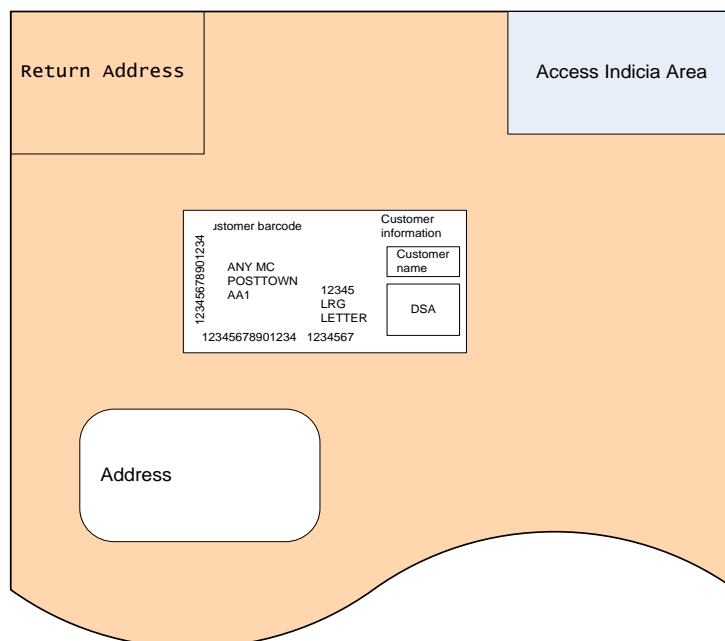

Figure 15: Return address positioning
- The label must be positioned above and to the left of the Delivery Address block. Where the return address is on the front of the Mailing Item, the label must be below the return address block, as illustrated in Figure 15: